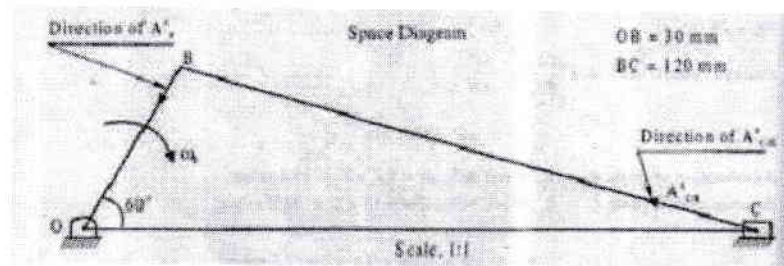

Fig. 2.5
5. In a slider crank mechanism, the crank OB = 30mm and the connecting rod BC=120mm. the crank rotates at uniform speed of 300rpm clockwise. Find the crank position shown in the figure in which the crank is turned 60 degree, find a) velocity of piston C and angular velocity of connecting rod BC b) acceleration of piston C and angular acceleration of connecting rod BC as shown in fig 2.5